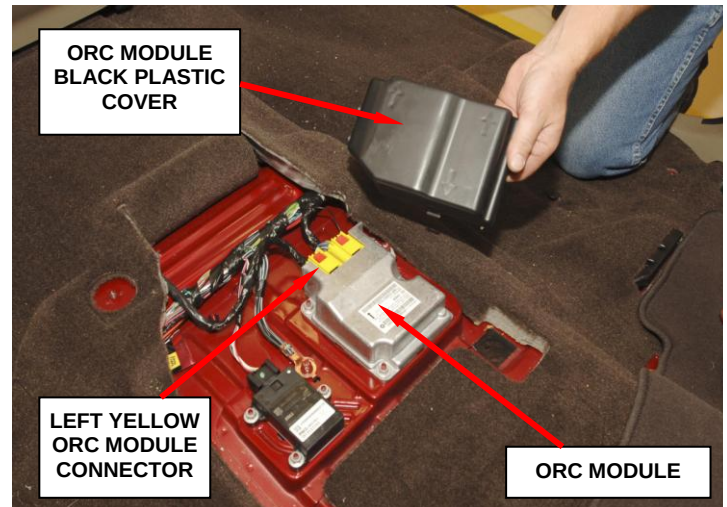

Figure 8 – ORC Module and Cover
- r. Remove the Occupant Restraint Controller (ORC) module black plastic cover (Figure 8).
- s. Disconnect the ORC module left yellow electrical connector and remove the wire from under the carpet (Figure 8).
- b. Route the ORC wiring under the carpet and connect the ORC module left yellow electrical connection (Figure 8). Then place the carpet back into position.